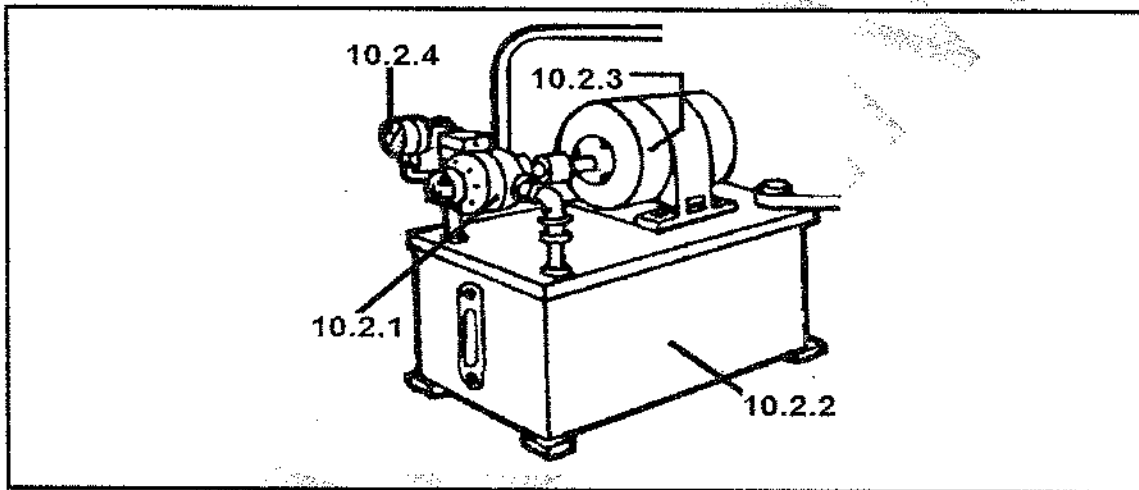

FIGURE 4
- 10.2 Name the parts numbered (10.2.1–10.2.4) as shown in FIGURE 4. Write only the answer next to the question number (10.2.1–10.2.4) in the ANSWER BOOK.